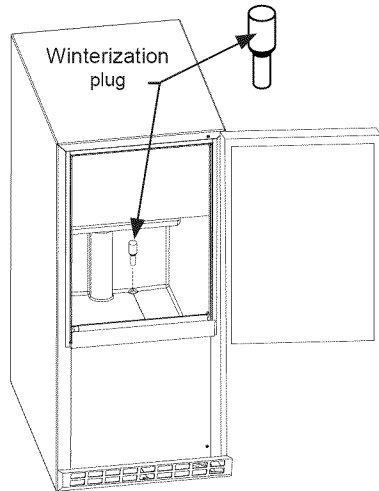

Figure 5
- Install the winterization plug in the water drain hole inside the ice bin (Figure 5).